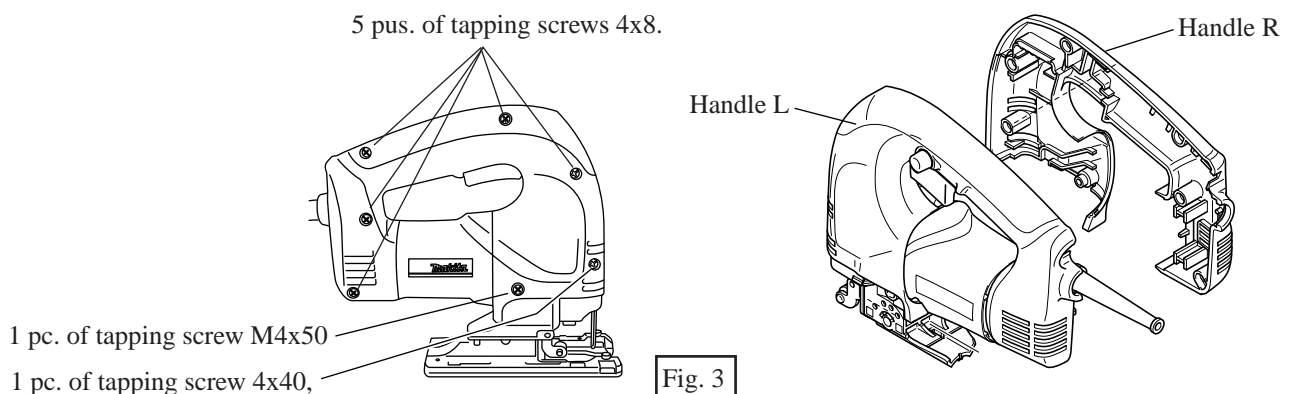

Fig. 3
1. Separate handle R from handle L by unscrewing the following screws. See Fig. 3.